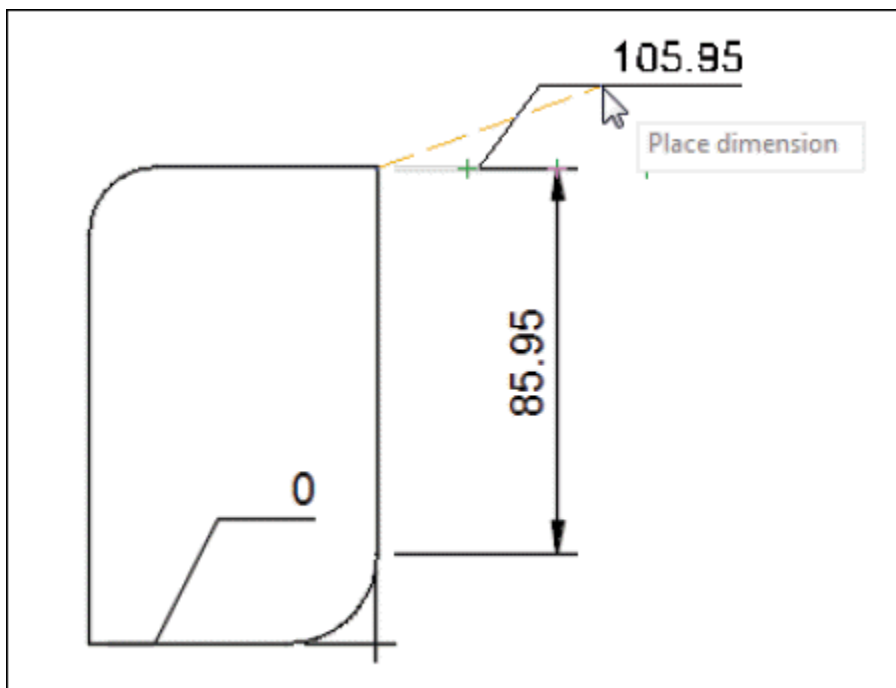

Figure-53. Calculating ordinate dimension
- Click at desired location to place origin of ordinate dimensioning. The ordinate dimension will be attached to the cursor; refer to Figure-53.